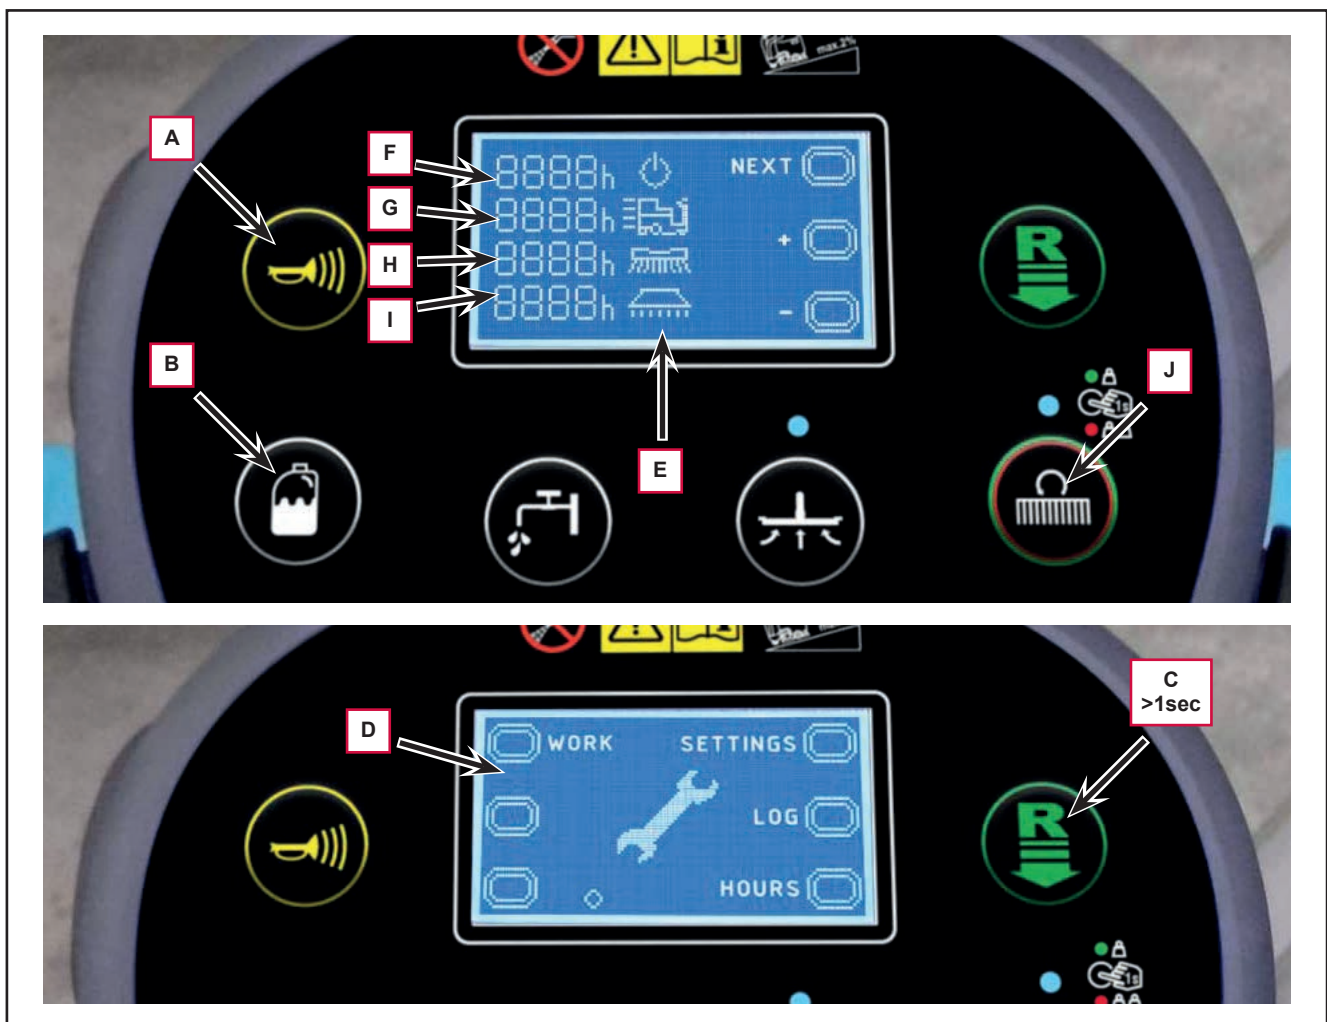

Figure 8
1. Turn the ignition key to “I” holding down both the horn button (A, Figure 8) together with the adjustment percentage detergent button (B).
2. Press hold 1 second the reverse button (C) to switch to the screen menu (D).
3. Press the horn button (A) to access the operating time counter screen (E).